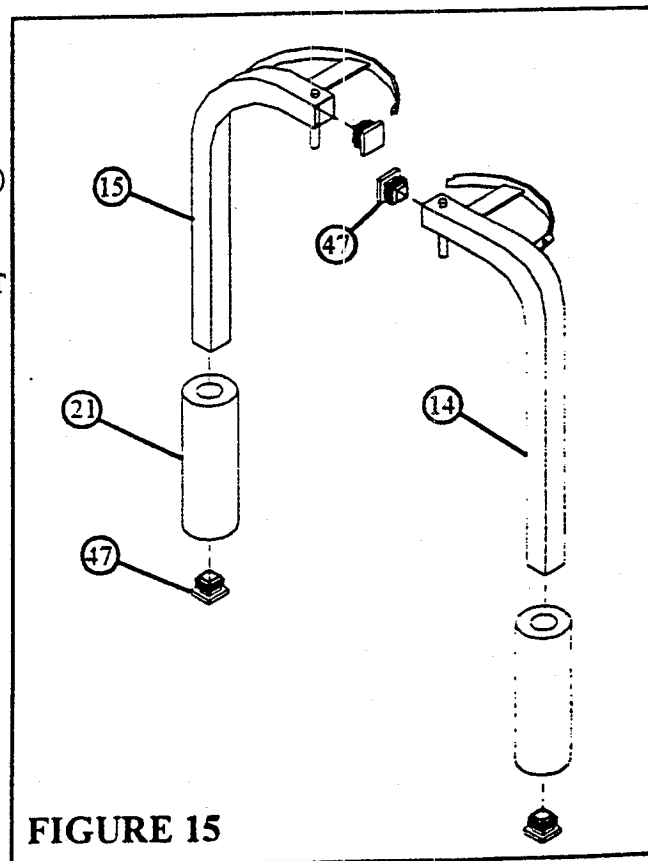

FIGURE 15
- Insert four 2" SQ. END CAPS (47) into the LEFT (15) & RIGHT (14) PEC ARMS as shown in FIGURE 15.
- Slide two 4 X 12" ROLLER PADS (21) onto the LEFT (15) & RIGHT (14) PEC ARMS as shown in FIGURE 15. (TIP: Spray window cleaner on the inside of the roller pad to help ease assembly.)